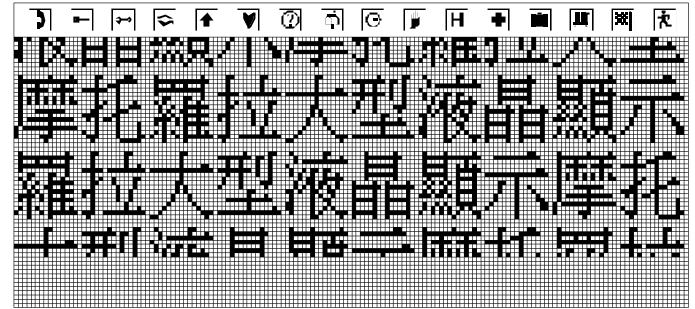

Figure 8f: Disable row re-mapping & column re-mapping and Rewrite map content.
- 5) Disable row re-mapping & column re-mapping and rewrite map content shown in Figure 8f,